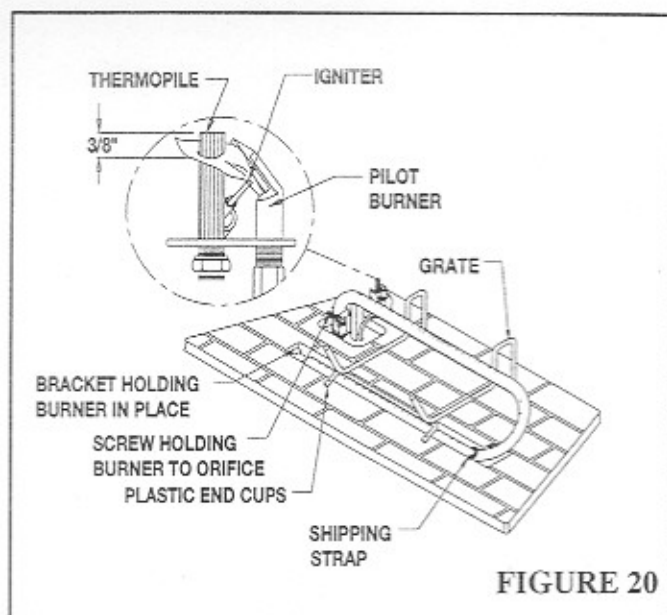

FIGURE 20
The grate has been factory set into position, remove the plastic cups from the front legs before installing the logs, (See Fig. 20).
Approximately the top 3/8" at the pilot generator (thermopile) should be engulfed in the pilot flame as shown in Figure 20 on page 8. Refer to Pilot Adjustment on Page 11.
2. Adjust pilot screw to provide properly sized flame, enough to engulf the thermopile for at least 3/8 of an inch. Turning the adjustment screw clockwise reduces the pilot flame. Counter clockwise increases the pilot flame. (Refer to Figure 20 for details). Replace pilot adjustment cap screw when done.